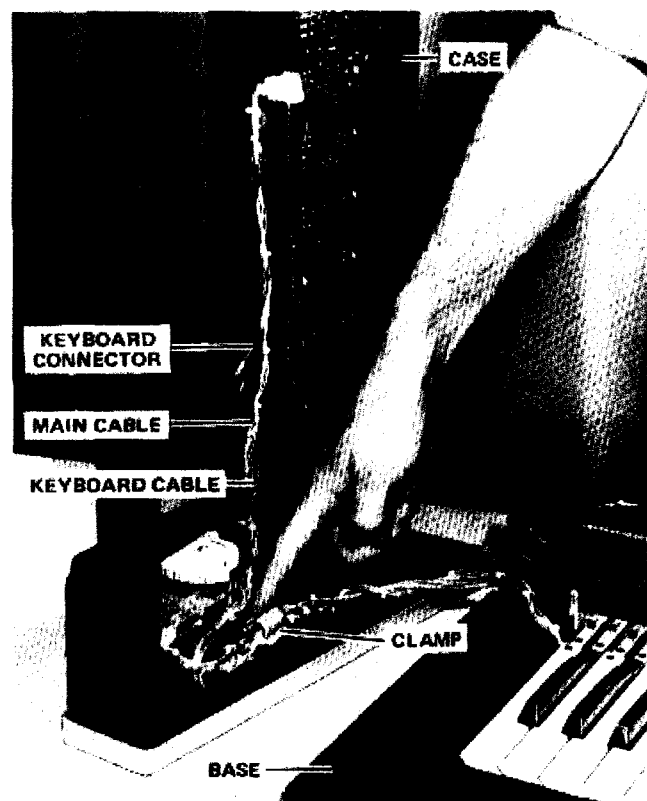
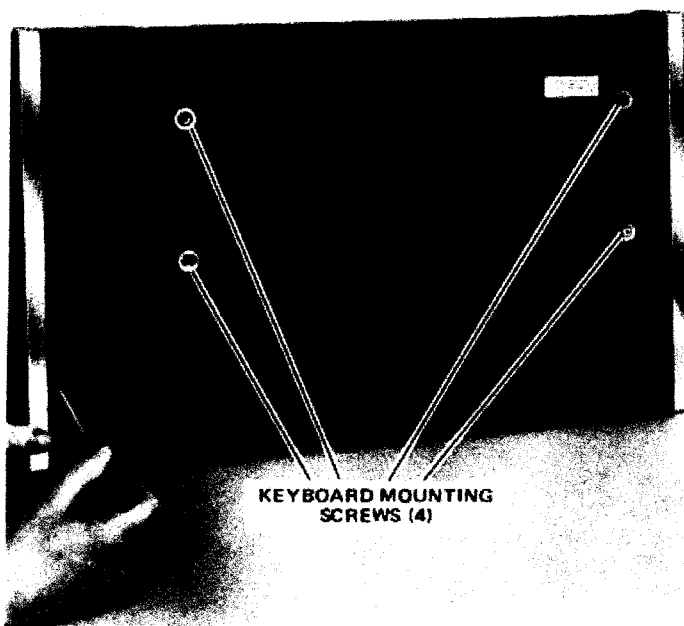

FIGURE 3-3 UNLOCKING CABLE CLAMP
FIGURE 3-8 KEYBOARD MOUNTING
b) Depress top of clamp firmly to release the main cable. Carefully note the portion of the cable that the clamp holds. Releasing the cable makes the case and base parts much simpler to reach for servicing. (See Figure 3-3)
a) To remove keyboard, take out the four mounting screws (see Figure 3-8). The keyboard cable wraps around the main cable and can be separately removed by unplugging the keyboard connector from the main PC board (see Figure 3-3). Once the keyboard cable is unwound, the connector may be plugged in again and the keyboard may be placed on the table and played in a normal fashion.
b) Note that cup washers (904-040948-006) were not used on early units. They should be routinely installed on all units. (See Figure 3-8)